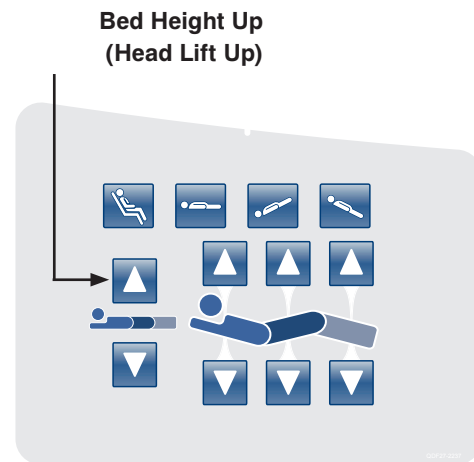

Figure 17: Head Siderail Control Panel - (Right Side Shown)
17. Place the bed at -12 degrees Reverse Trendelenburg by pressing the **Bed Height Up (Head Lift Up)** button as shown in Figure 17 below. Verify -12 degrees +/- 0.1 with the inclinometer you previously placed on the bottom of the litter frame in step 9.